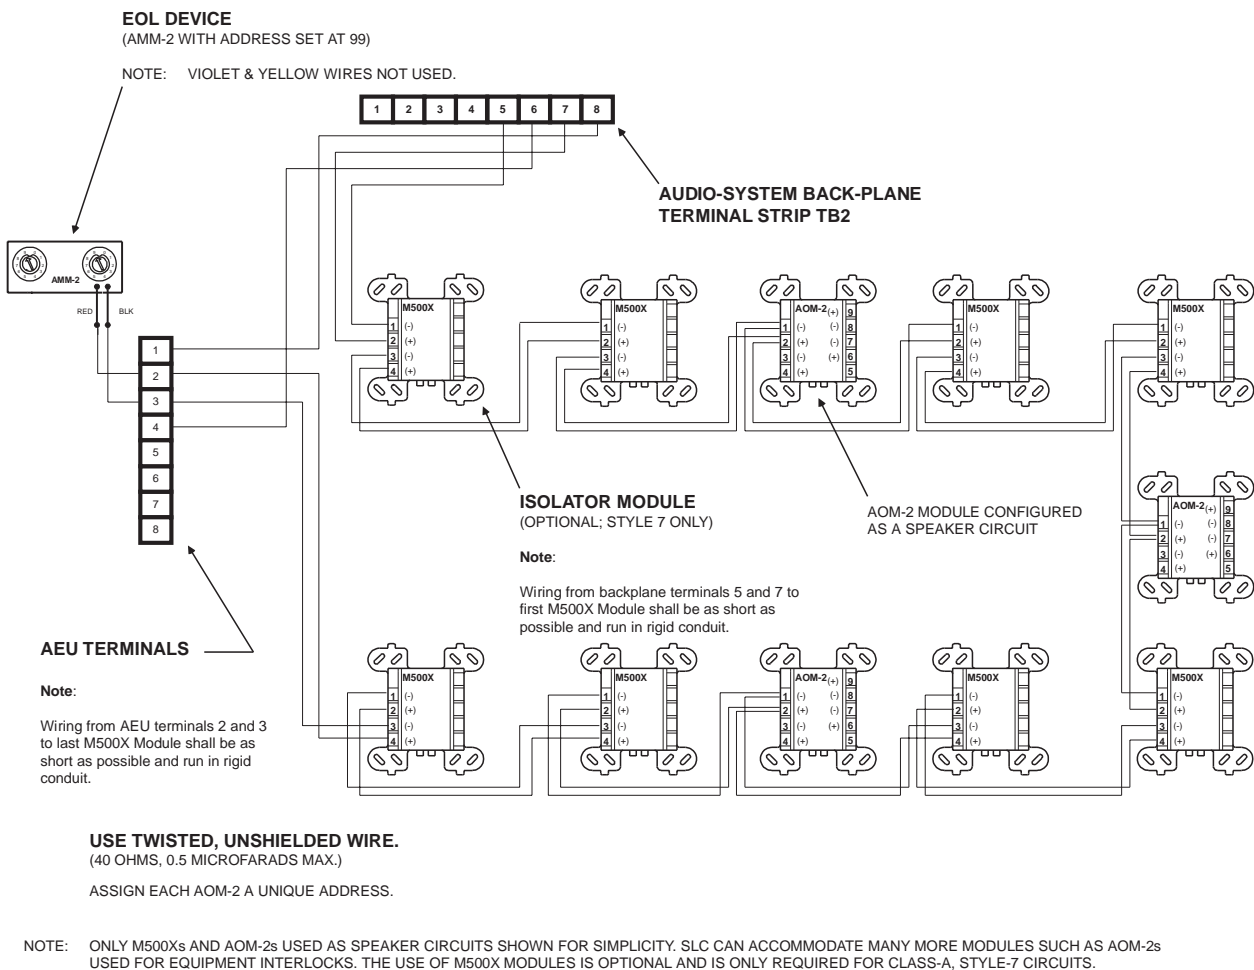

Figure 2-2
Style 7 operation can be accomplished by isolating each addressable output device. The portion of the SLC to be protected must also have a Fault Isolator Module (M-500X) at each end as shown in Figure 2-2.
- Connect an electronic EOL device (consisting of an AMM-2 module, Address "99") (red and black wires) to the AEU as shown in Figure 2-2. (Yellow and violet wires are not used.)